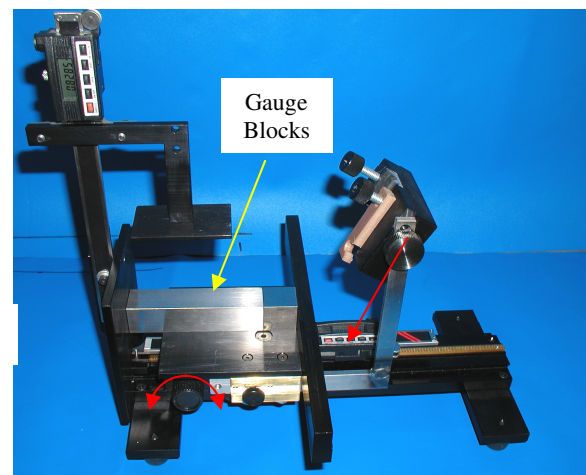

Figure 6.3.2–Calibration of the Length Measurement Using Gauge Blocks
6.3.2.2 Turn the knob to move the clamping assembly back to the left until one end of gauge block(s) rests against the toe plate and the opposing end of the gauge block(s) rests against the heel plate, and then zero the length scale, Figure 6.3.2.